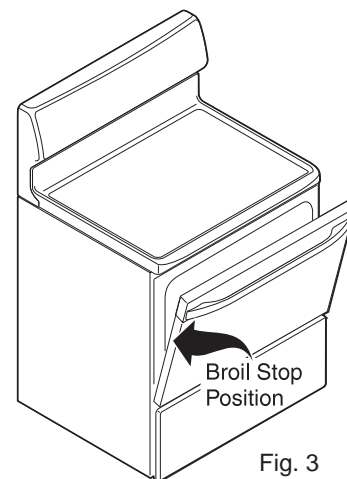

Fig. 3
- Place the broiler pan and insert on the oven rack (if equipped). **Open the oven door to the broil stop position when broiling** (See Fig 3).